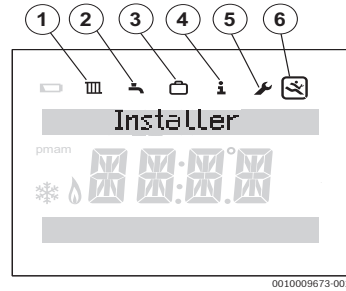

Fig. 14 Installer menu display
- ▶ Press the **menu** and keys until the main menu with service menu is displayed (→ Fig. 14).